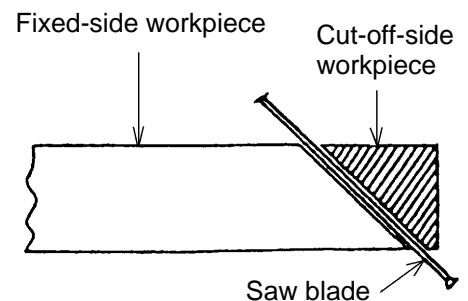

Fig. 8
**[Caution] When the workpiece is secured on the left side, the cut-off portion comes to rest on the side of the saw blade as illustrated in Fig. 8. If the handle is raised before the saw blade rotation comes to a complete stop, there is a chance that the cut-off portion of the workpiece could become jammed against the saw blade, causing a hazardous condition. Instruct the customer to ensure without fail that the saw blade comes to a complete stop before attempting to raise the handle.**